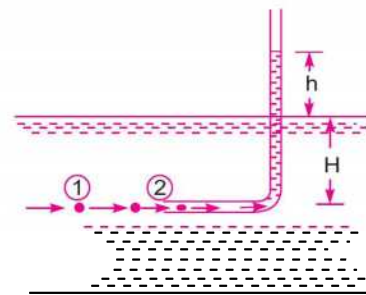

Fig. 6.13 Pitot-tube.
**6.7.3 Pitot-tube.** It is a device used for measuring the velocity of flow at any point in a pipe or a channel. It is based on the principle that if the velocity of flow at a point becomes zero, the pressure there is increased due to the conversion of the kinetic energy into pressure energy. In its simplest form, the pitot-tube consists of a glass tube, bent at right angles as shown in Fig. 6.13.
The lower end, which is bent through  $90^\circ$  is directed in the upstream direction as shown in Fig. 6.13. The liquid rises up in the tube due to the conversion of kinetic energy into pressure energy.